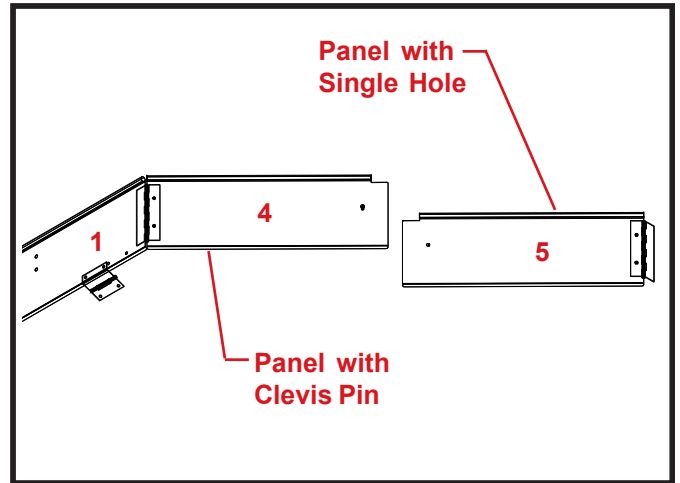

Figure 5
Once the front, rear, and side panels have been secured to the extension, fold the panels outward. Fasten a corner panel with clevis pin, to to the right hand side of the front Tip-Up panel using (2) 1/4" x 1/2" serrated flange bolts and 1/4" flange nuts. Fasten the the corner panel with the single hole to the left hand hinge, of the right side Tip-Up panel using (2) 1/4"x1/2" serrated flange bolts and 1/4" flange nuts. Insert the clevis pin in the single hole and secure with hair pin. Repeat with the remaining corner panels. (See Figure 5.)